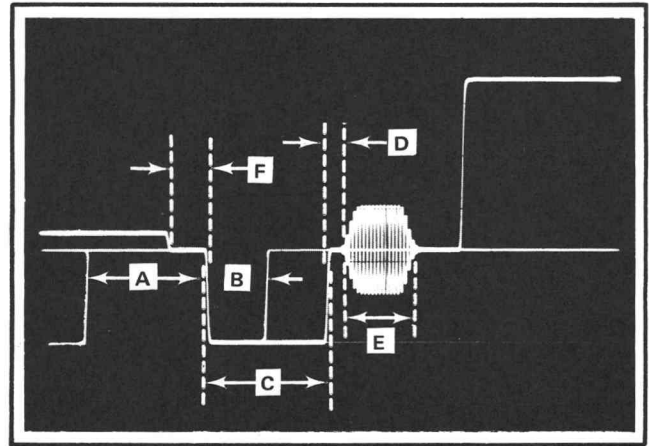

Fig. 6-17. Typical test oscilloscope display of the blanking interval used to check timing.
b. Observing the test oscilloscope display, rotate the Delay Time Multiplier to position the blanking interval into view. (Fig. 6-17 illustrates a typical display.)
c. Using Fig. 6-17 as a guide, CHECK or ADJUST the horizontal timing as listed in Table 6-6.